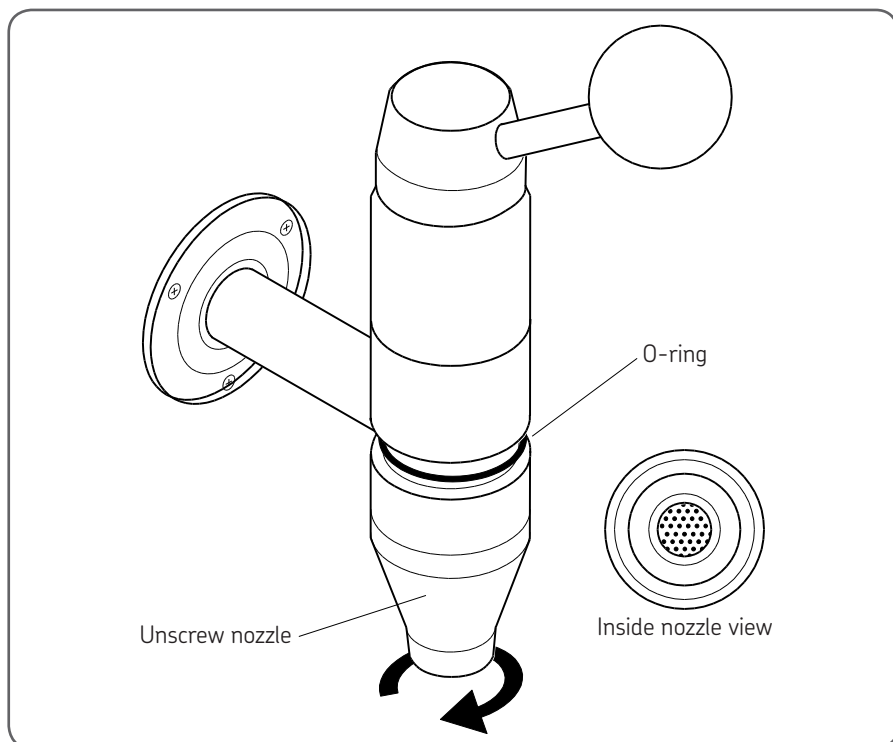

Fig 25 Removing faucet nozzle
- Remove faucet nozzles by unscrewing, clean heads and o-rings. See figure 25 (for standard faucets).